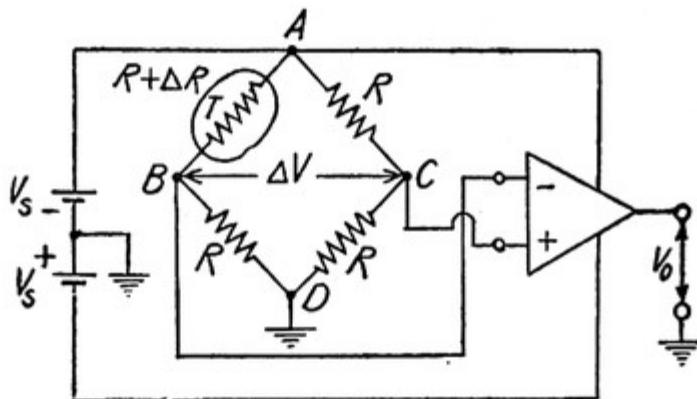

Fig. 28. A bridge amplifier.
(11) Bridge Amplifier : Circuit is shown in fig. 28. Operational amplifier is used here to amplify the output from a Wheatstone bridge, circuit which consists of a transducer (a device that con-
verts a physical variable, being measured into an electrical signal e.g., a thermistor) is one of its arms. In fig. 28,  $T$  is a thermistor. Let the change in resistance of  $T$  with temperature be  $\Delta R$ . Let a constant voltage,  $V_s$ , be applied to the bridge. Then potential at point,  $B$ , will be